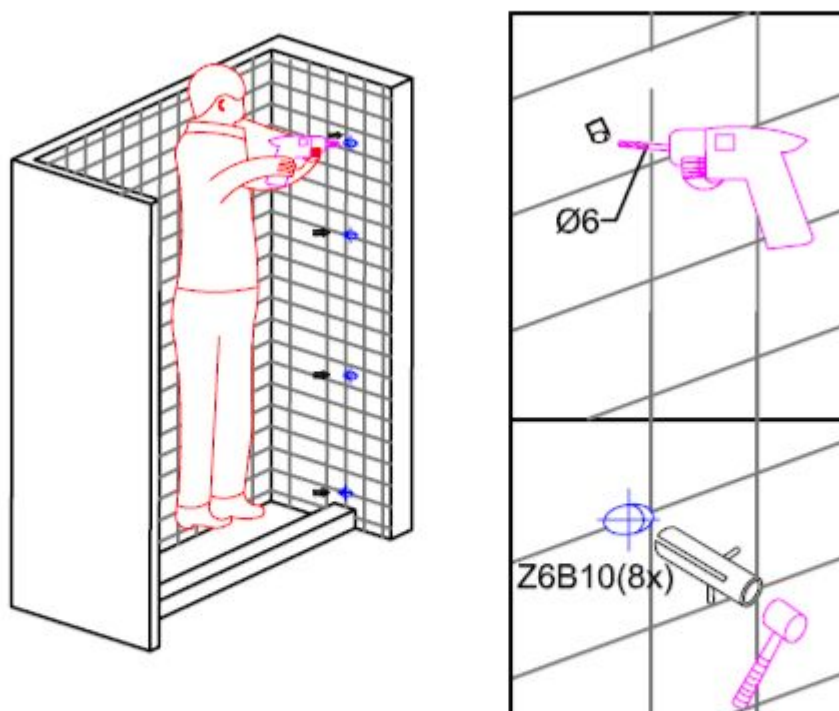

Figure 2
2. Drill the holes($\varnothing 6\text{mm}$) into the wall according to the marks made and insert the wall plugs (Z6B10) into the holes, as shown in figure 2.